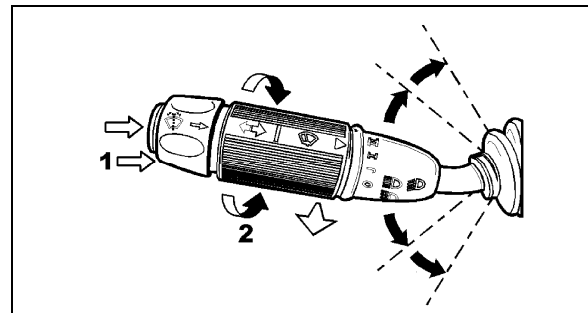

FIGURE 35: MULTIFUNCTION LEVER
Rotate the multifunction lever forward to activate lower windshield wipers (arrow 2, Figure 35). The first position operates the wipers at low speed and the second position operates the wipers at high speed. Turning the lever backwards will operate the wipers in the intermittent mode.
The lower windshield washer pump is electrically operated and is controlled by a washer control ring on the multifunction lever (item 1, Figure 35).